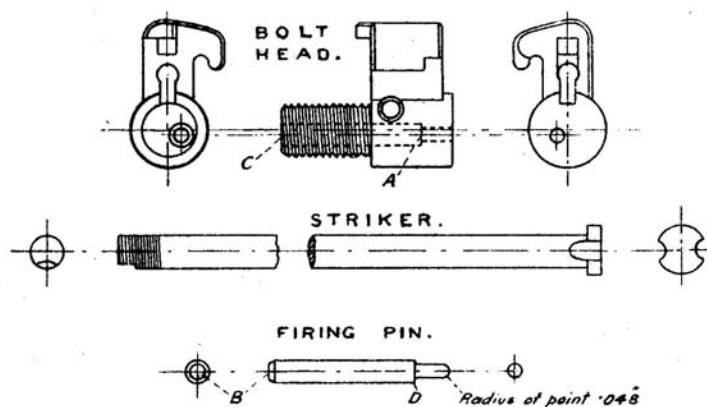

Fig. 2.
(ii) Test the backsight bed and foresight band block for rigidity, and the foresight blade for security. Slight lateral movement in the bed and block, provided it is insufficient to affect sighting and accuracy, may be ignored. Blades, foresight, known as Mk. II, introduced in India, having a base of .03 inch wider than that of Mk. I foresights to enable them to be set to a maximum of .045 inch off centre, may be met with in rifles brought home in the past by troops. Such foresights may remain until exchange for another height is necessary when they will be replaced by the ordinary service No. 1 pattern. The Mk. II sights are stamped with the figure 2 alongside the H, N or L marking.
(b) Remove the bolt-head from the rifle, insert the firing-pin, and press home to the small shoulder (A) (Fig. 2). If the rear end (B) of the pin is found to project beyond the rear face (C) of the bolt-head, reduce the pin at (B) until it is just below the face (C). This ensures that the bolt-head, and not the small shoulder (D) of the firing-pin, acts as a stop to the forward movement of the striker.